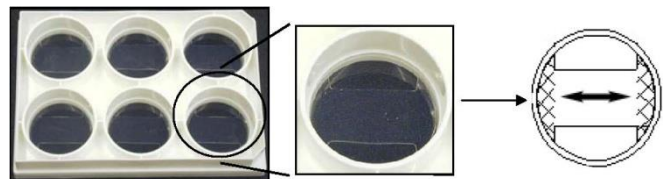

Figure 36. UniFlex® culture plate with schematic of the strain region
- Strain field represented by a 0.6" wide x 0.952" (3.68 cm²) long centrally located rectangular region (Fig. 36).